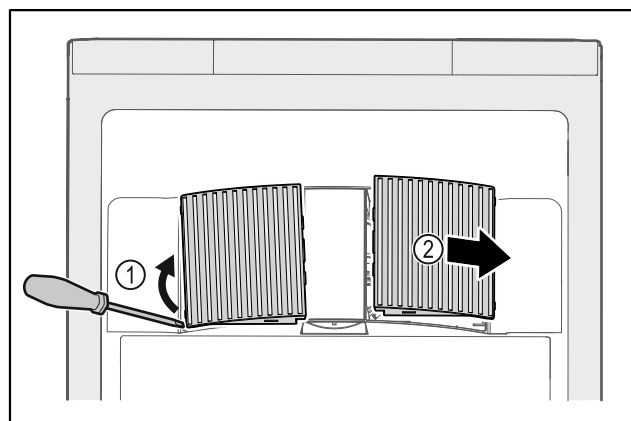

Fig. 201
- ▶ Carefully lever out fan covers from the side Fig. 201 (1) and remove towards the front Fig. 201 (2).